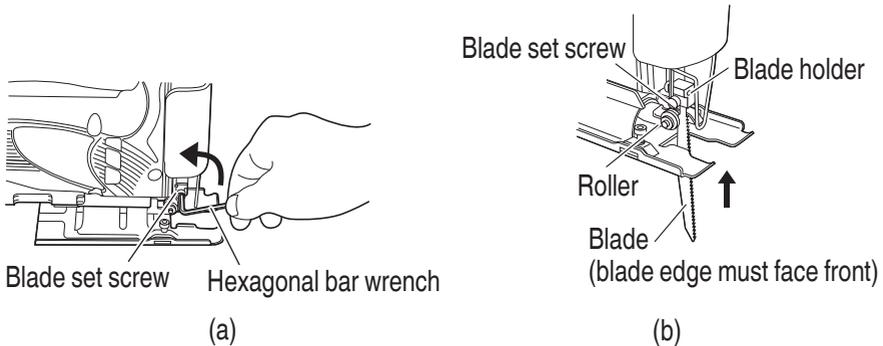

Fig. 1
1. Use the accessory hexagonal bar wrench to loosen the blade set screws on the blade holder, as shown in **Fig. 1(a)**.
3. As shown in **Fig. 1(b)**, firmly clamp the side screw.